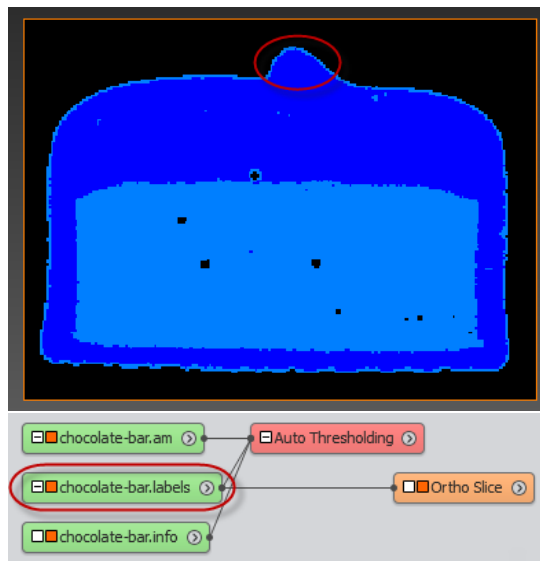
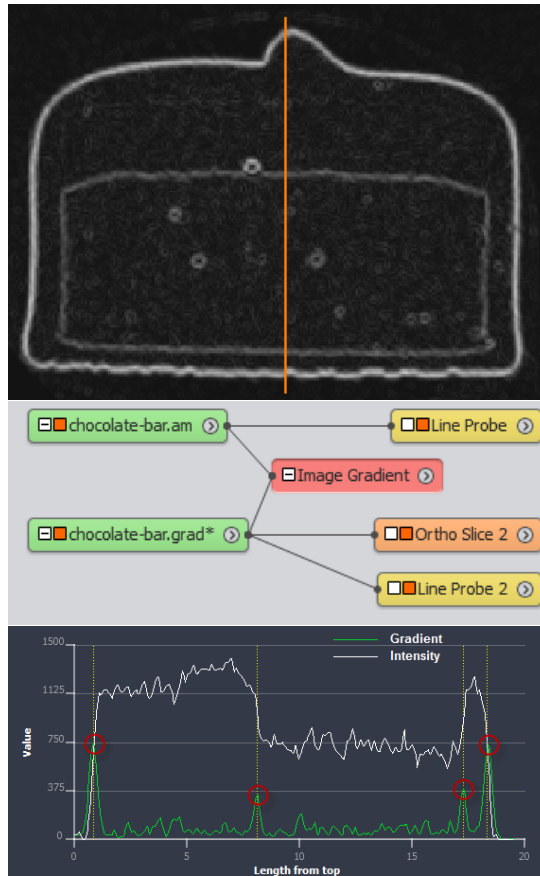
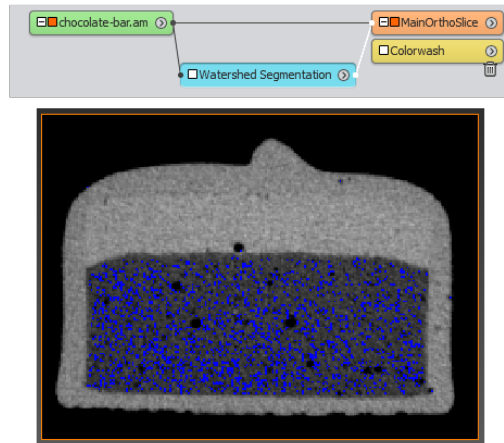

Figure 6.70: Automatically segmenting the image with *Auto Thresholding*.
Figure 6.72: The peaks of *Image Gradient* help to better locate the phase boundaries
Figure 6.77: The *Watershed Segmentation* wizard at step 5.
A mousse layer (light blue) seems to surround the chocolate topping (dark blue): the mousse between the exterior and the chocolate is actually an artifact due to partial volume effect (see Figure 6.70 and Figure 6.71). Adjusting the thresholds will not solve that issue. As illustrated in figure 6.72, the image gradient gives useful hints on actual boundaries. Instead of using direct intensity thresholding, a more robust method is shown in the next section that takes advantage of the image gradient.
- You can use 629-674 as range here. Again, the goal is to mark inner areas of the given material. (see Figure 6.77). If you select a lesser lower range, areas between the air and the chocolate will be selected, and it will result in the same artifact than the one introduced in Figure 6.70.